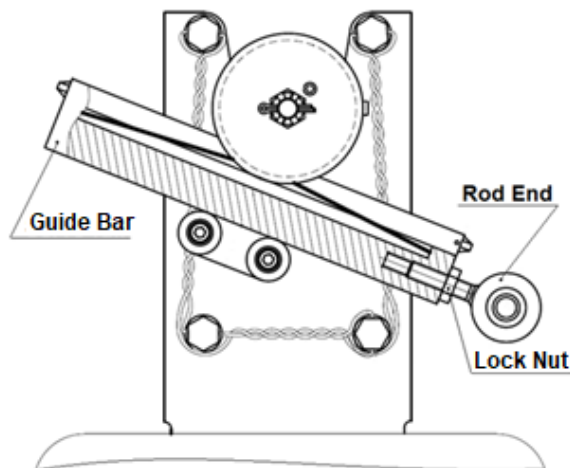

Fig. 5
2. Screw-out the Rod End from the servo guide bar (Fig. 5).